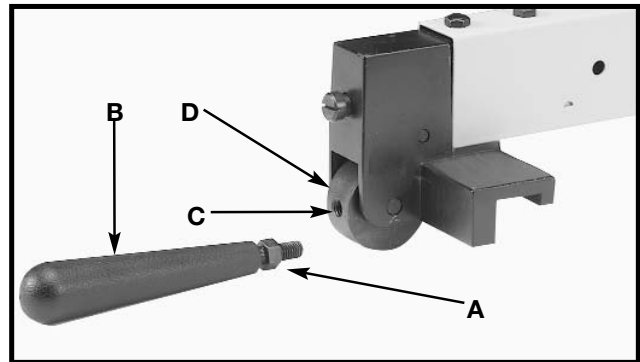
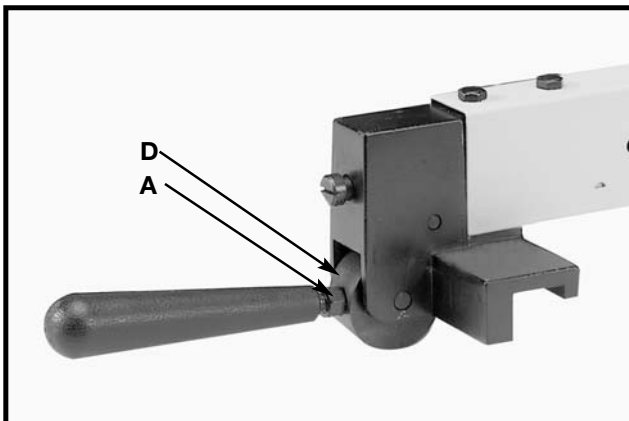

Fig. 24
Fig. 25
1. Thread the M8x1.25 hex nut (A) Fig. 24, approximately halfway on the stud of the handle (B).
2. Thread the handle (B) Fig. 24 into the tapped hole (C) in the fence cam (D). Tighten the hex nut (A) Fig. 25 against the cam (D).